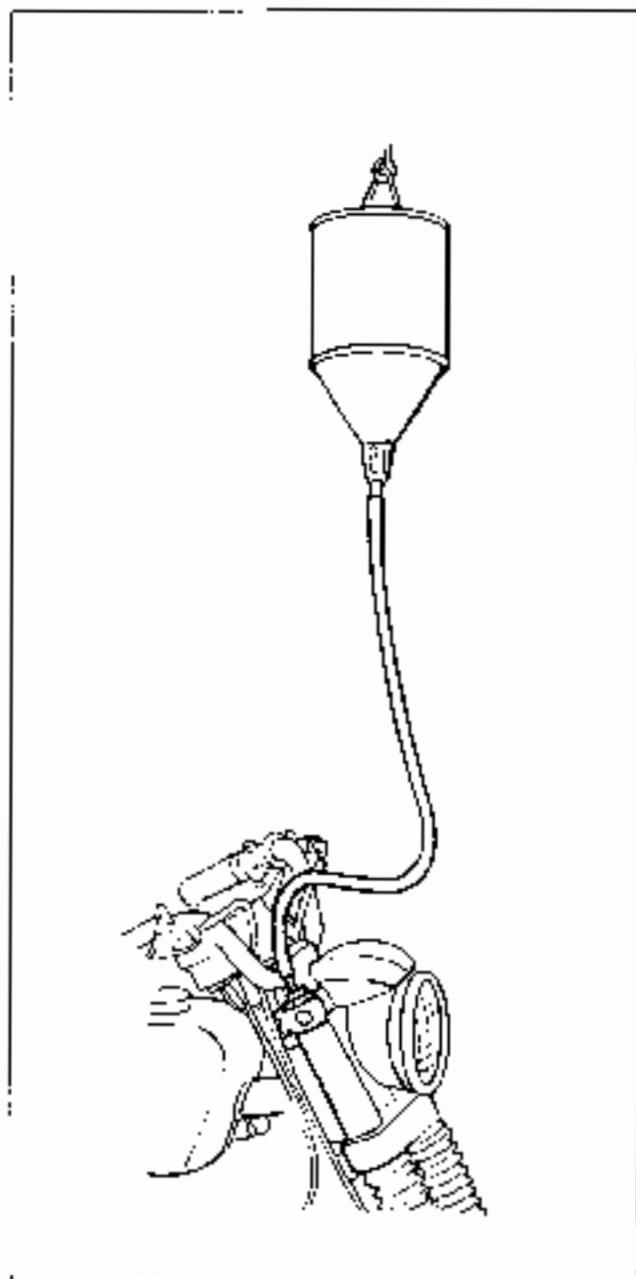

Figure 2-19. Filling Hydraulic Fork with Oil
3. Make plug (7) from a rubber bottle stopper purchased from a drug store. Rubber stopper should be 1 in. to 1-1/8 in. long, and its largest diameter about 5/8 in.
5. Slightly flare one end of a piece of 1/4 in. tubing (8), about 2 in. long and insert into plug (7). Attach filler can to plug with transparent flexible tubing (5) about 2 feet long. See Figure 2-19.
6. Push the plug into the filler hole in fork top, Figure 2-19. Pour exact amount of oil into can. Work fork up and down. Air escaping through oil in filler can as fork is pushed downward will cause the oil to bubble violently, but because the bottom of the can serves as a baffle, no oil will be lost. Compressing the fork forces air out, releasing it draws oil into fork.